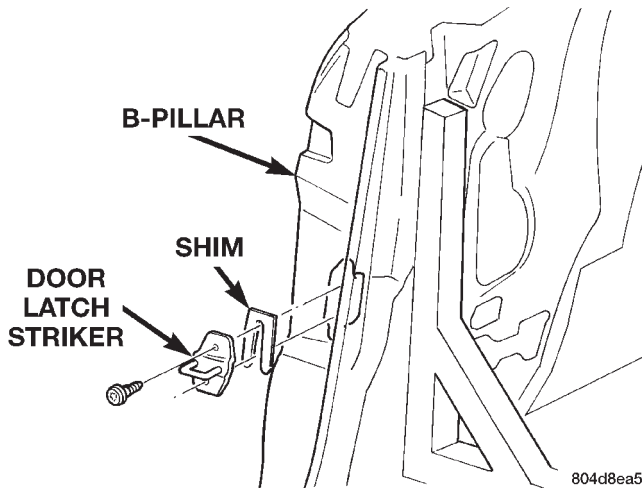

Fig. 34 Door Latch Striker
- (1) Mark outline of door latch striker on B-pillar to aid in installation.
- (2) Remove screws holding door latch striker to B-pillar (Fig. 34).
- (3) Separate latch striker from vehicle.